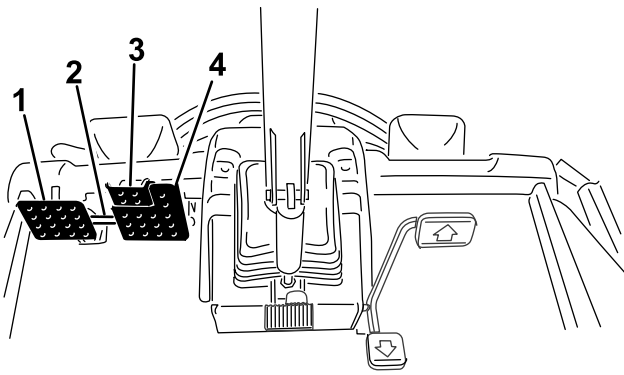

Figure 25
- Disconnect the pedal-locking latch (Figure 25).